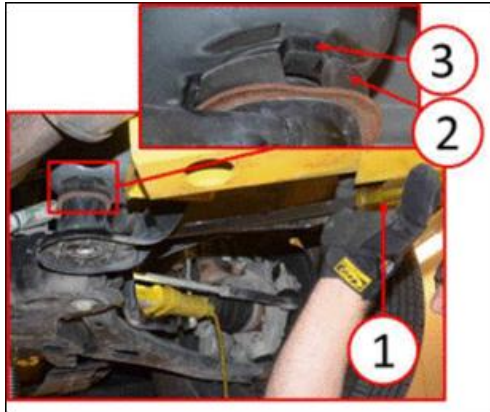

Fig. 3 Snubber Installation
Step 3. With the rear mounting bolt for the lower control arm still removed, position a pry bar between the crossmember and the body to lower the upper crossmember mount for snubber installation (Fig. 3).